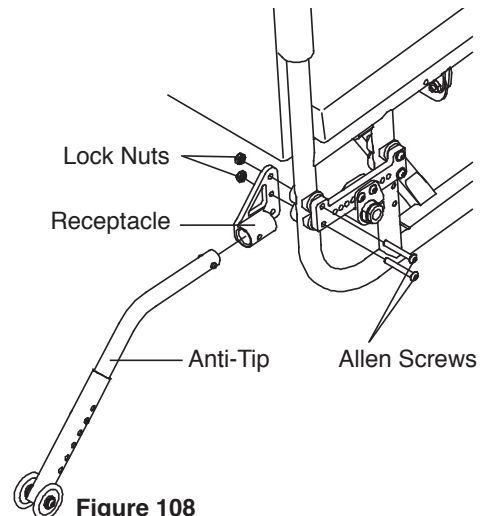

Figure 108
2. Remove the Allen Screws that secure the adjustable axle plate at the rear of the frame. Carefully note the placement of the plate and the order of the various washers and nuts (and, if applicable, stroller handle and/or armrest receivers). See Figure 108.
3. Install the anti-tip receptacle as shown in Figure 108.